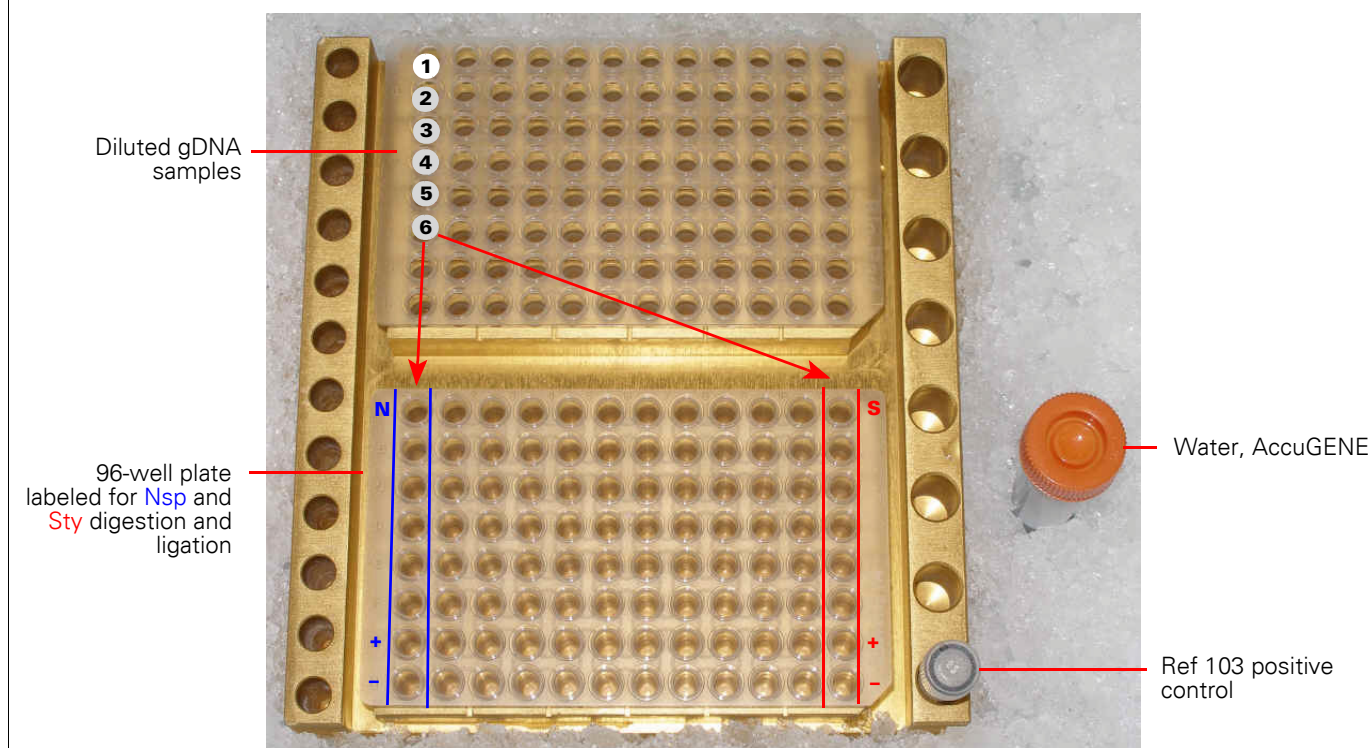

Figure 4.5 Setup for aliquoting diluted gDNA and controls to a 96-well plate labeled for Nsp and Sty digest/ligation
- Place the plate on the bottom half of the cooling chamber (Figure 4.5 on page 27).
2. Transfer two 5 μ L aliquots of the first sample to wells A1 and A12 of the digest/ligate plate (Figure 4.5 on page 27).